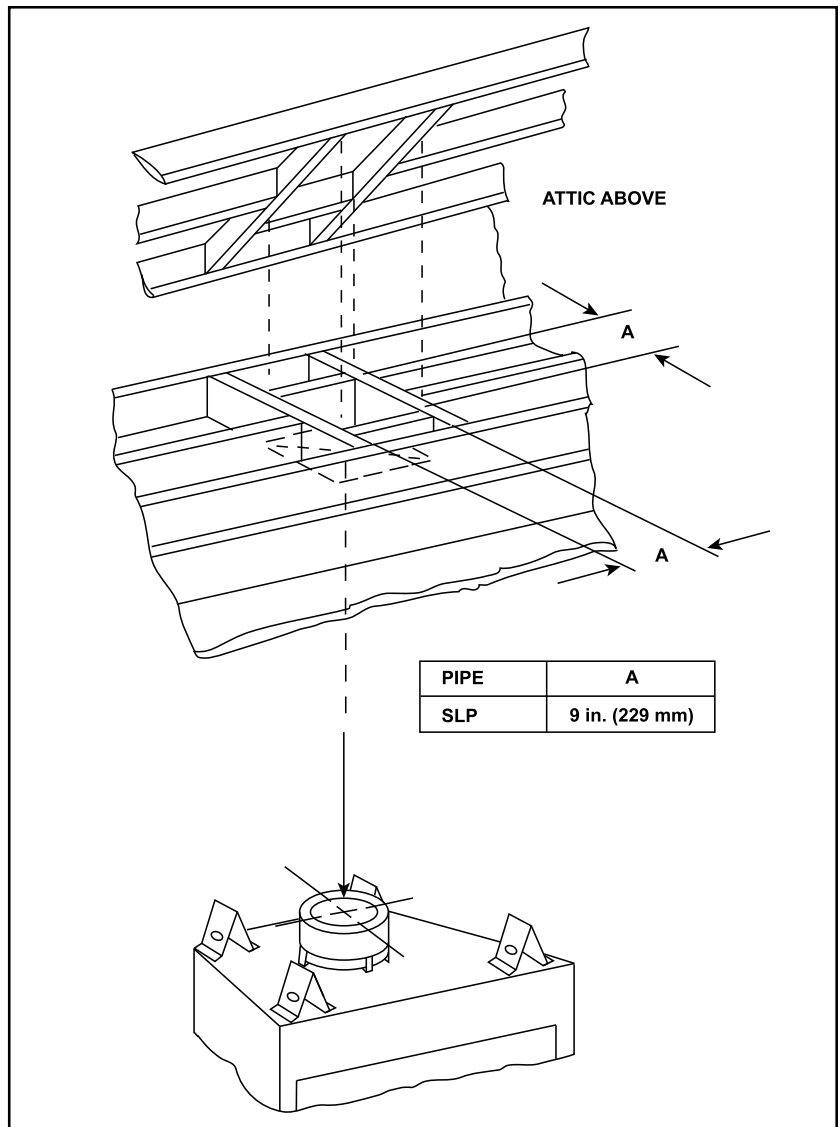

Figure 8.3 - Installing Ceiling Firestop
- **SLP pipe only** - Frame opening 9 in. x 9 in. (229 mm x 229 mm) whenever the vent penetrates a ceiling/floor (see Figure 8.3).